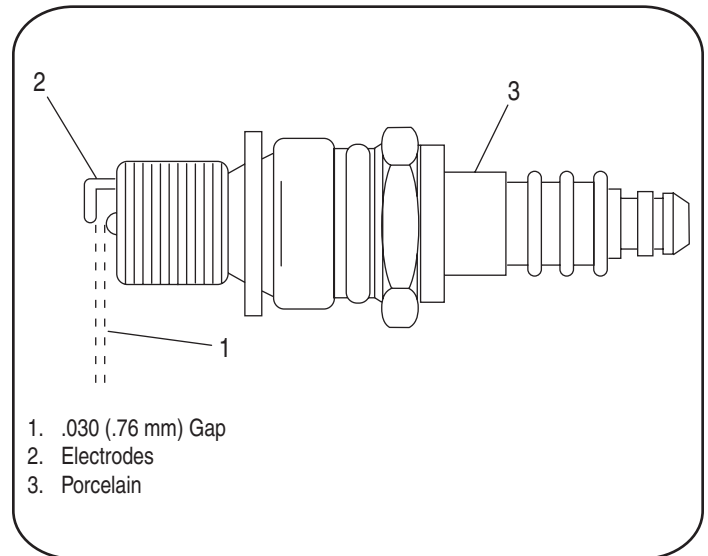

Figure 5-3
- Check the electrode gap with a wire feeler gauge and reset the gap to .030 inches. See Figure 5-3.